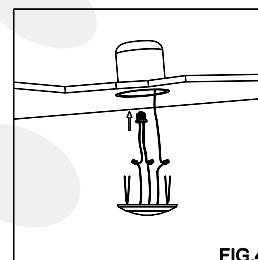
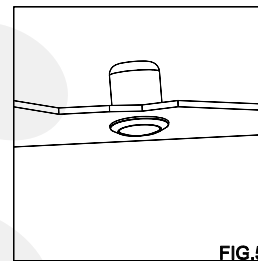
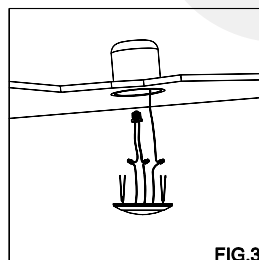
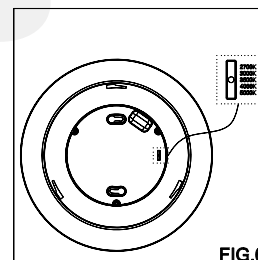

FIG.4
FIG.5
FIG.3
FIG.6
Arrange the wires into the back of the junction box. Push the fixture back to the ceiling and make sure the fixture secured in the bracket of junction box. (FIG.3) Complete the installation by push the fixture into the ceiling. (FIG.4) Once the fixture is mounted on the wall, caulk the space between the wall and the Shell. (FIG. 5)
- Install the Spring Hooks as FIG.5 (For 5 Inch Can) or FIG.6 (For 6 Inch Can) by using M3*8 self tapping screws.
- Match the Male and Female Plugs and connect them firmly. (FIG. 3)
- If using TORSION SPRINGS, squeeze both TORSION SPRING arms together and insert into the TORSION SPRING SLOTS (or place spring on mounting bracket RECEIVER BRACKETS) of the CAN.(FIG. 4)
- Tuck all wires into the CAN and carefully push the RETRO-FIT TRIM into CAN. (NOTE: To provide enough room in shallow cans, carefully position SOCKET ADAPTER and SOCKET adjacent to the long side of the LED DRIVER prior to inserting the RETROFIT TRIM into the CAN.) (FIG. 4)